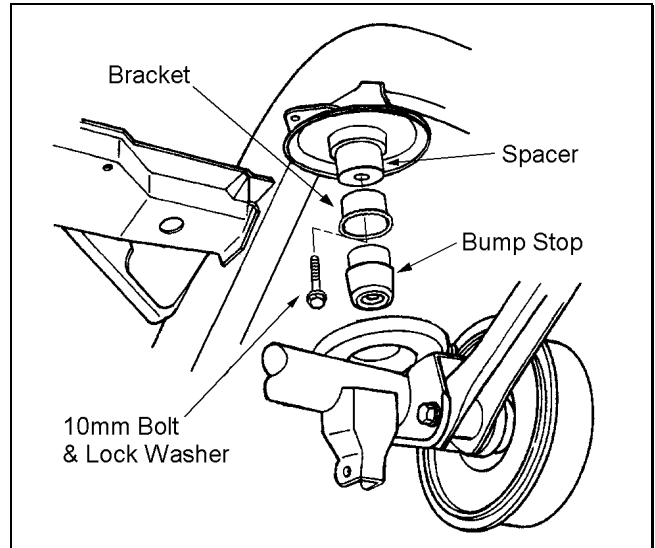

Figure 15
- 2) ☐ Insert Rancho spacer 420027 and reinstall the bracket with the 10mm hardware from kit 860161. Insert the bump stop into the bump stop bracket. See figure 15.